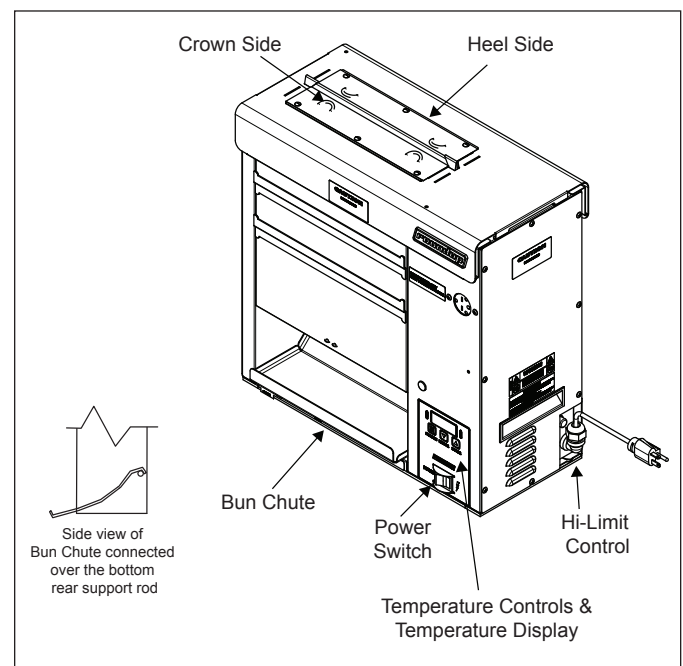

Figure 2. VCT-2010 Components
2. Install the Bun Chute so the hooks are installed over the lower rear yellow Support Rod (Figure 2).
3. Plug the Butter Wheel Assembly power cord into the receptacle on the front of the unit where the Butter Wheel Assembly is mounted (Figure 2).